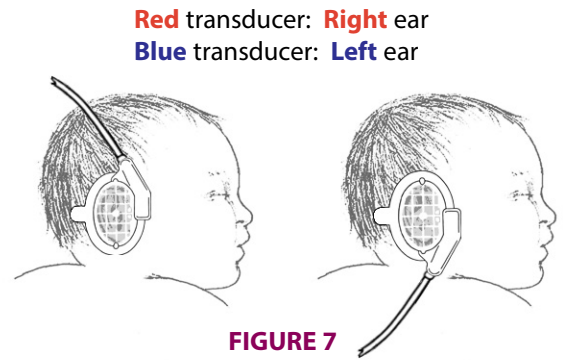

FIGURE 7
- b. Check that the earphones are properly placed and form a good seal around the baby’s ears (Refer to Figure 7). Also check that the earphone cable transducers are securely attached to the earphones.